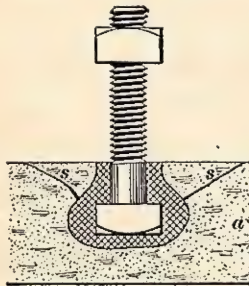

FIG. 37
- 56.** Bolts may be secured to marble or slate slabs by the method shown in Fig. 37.